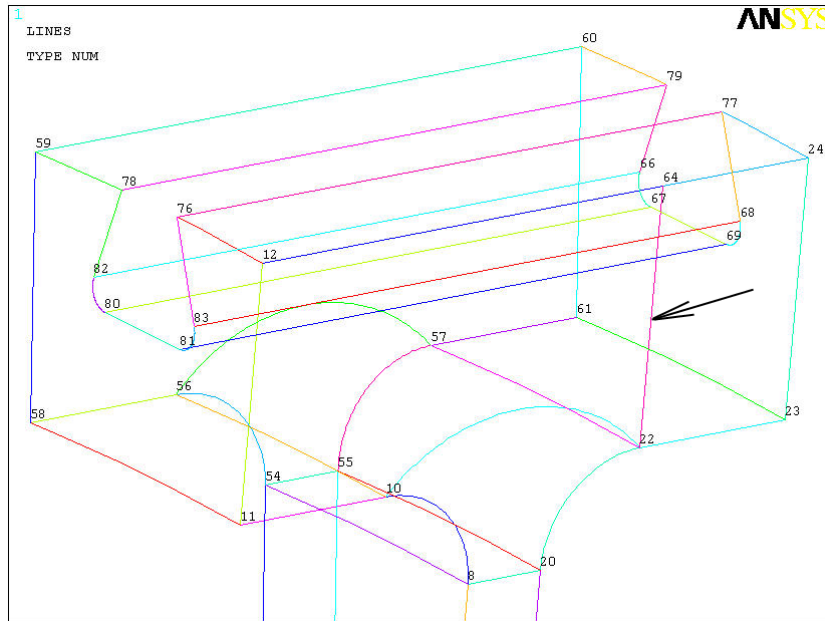

Fig.6.11. Auxiliary line
1) Create line from point 22 perpendicular to the line 10: **PrPr** → **Modeling** → **Create** → **Line** → **Lines** → **Normal to Line**. In this case, the line 10 is divided into two lines, with a separating point KP64 (Fig. 6.11);